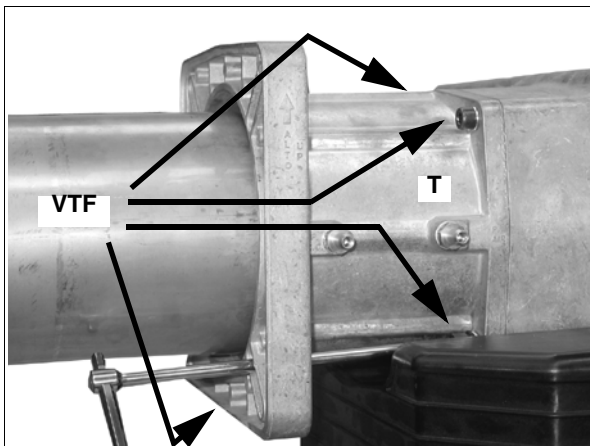

Fig. 4
- 2 Remove the flanged piece T by removing the 4 socket head screws VTF (Fig. 4).